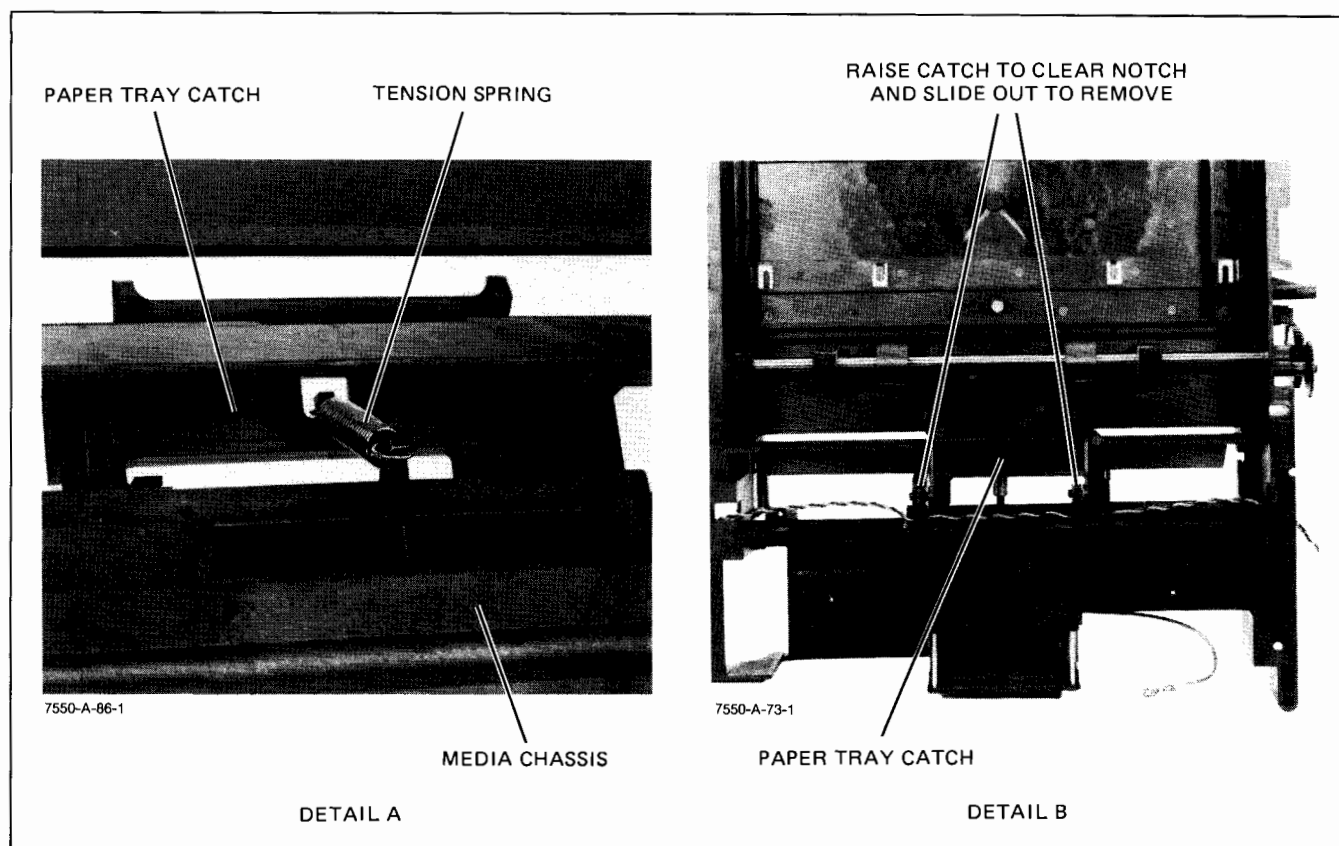

Figure 6-40. Paper Tray Catch Removal
- e. Carefully release the paper tray catch tension spring. See Figure 6-40, Detail A.
- g. Raise the paper tray catch up to clear the notch in the media chassis assembly and slide the catch out to remove. See Figure 6-40, Detail B.